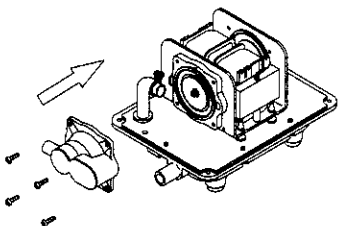
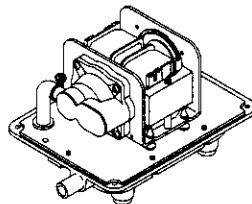

Fig.13
Fig.14
⑧ After reattaching new diaphragm mounting block, tighten the casing block with 4 screws as reverse procedure when removing (refer to fig.13). Reattach the L-shaped tube to the casing nozzle. Tighten the hose with spring clamp (refer to fig.14).